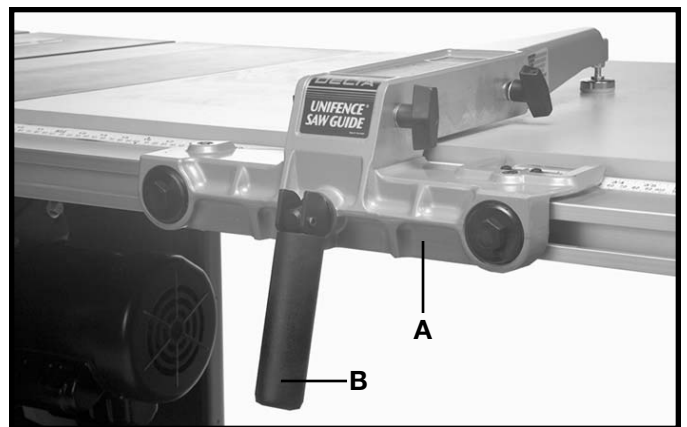

Fig. 37
4. Lock fence body (A) to the guide rail by pushing down on handle (B) as shown in Fig. 37.